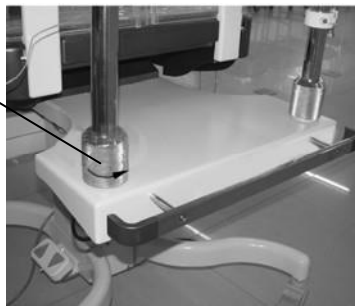

FIGURE 2.1 INSTALLATIONS THE PILLAR
a. See figure 2.1, unscrew two clamp nuts according to the direction of arrow, and raise these two pieces of stainless pillars to the maximum height to make them on the same height.